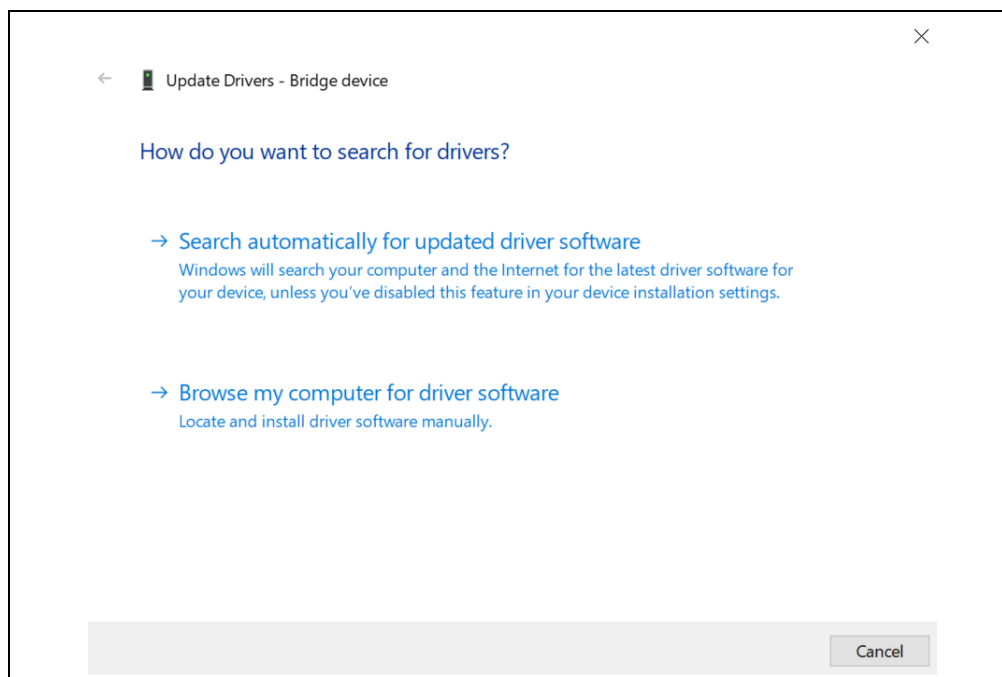

FIGURE 2-4: Driver Search Window.
7. After clicking on “Update driver”, the window in Figure 2-4 will appear. Choose “Browse my computer for driver software”.